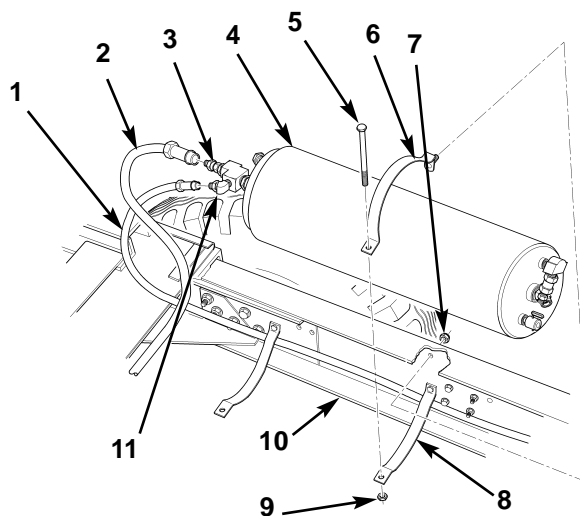

Figure 3. Removing Primary Reservoir.
5. Remove two nuts (figure 3, item 9) and screws (figure 3, item 5) from primary reservoir upper and lower clamps (figure 3, items 6 and 8).
6. Remove two nuts (figure 3, item 7) and upper clamps (figure 3, item 6) from right frame rail (figure 3, item 10) and primary reservoir (figure 3, item 4).
7. Slide primary reservoir (figure 3, item 4) back from crossmember, disconnect tube (figure 3, item 1) from elbow (figure 3, item 11) and tube (figure 3, item 2) from adapter (figure 3, item 3).
8. Remove fittings from front of primary reservoir (figure 3, item 4). Refer to TM 9-2320-283-20.